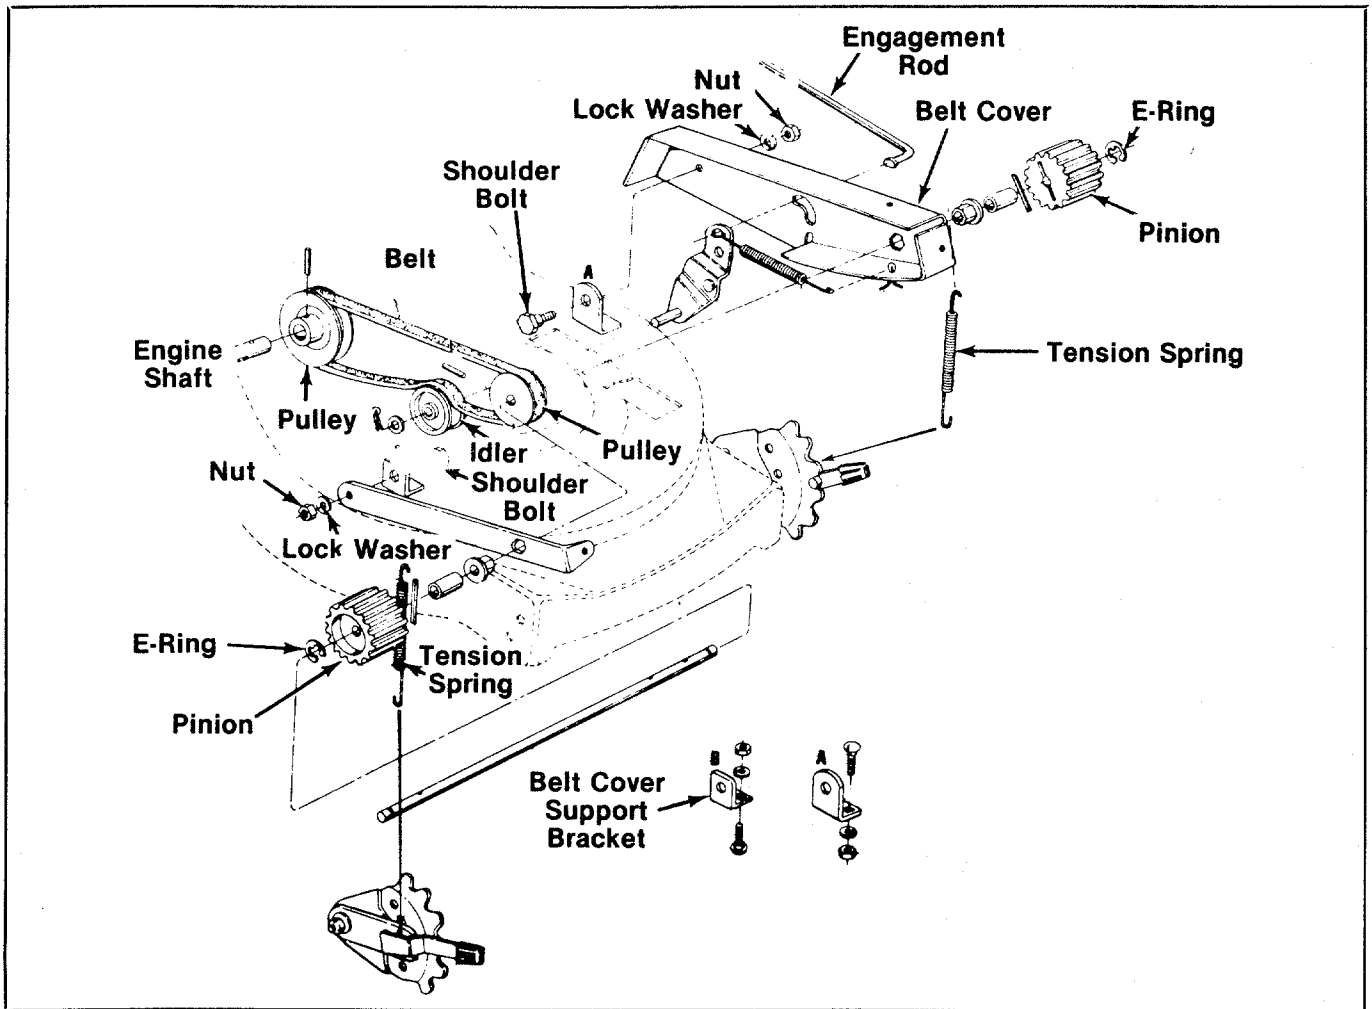

FIGURE 26.
### BELT REPLACEMENT (See Figure 26)
2. Remove both tension springs. See figure 26.